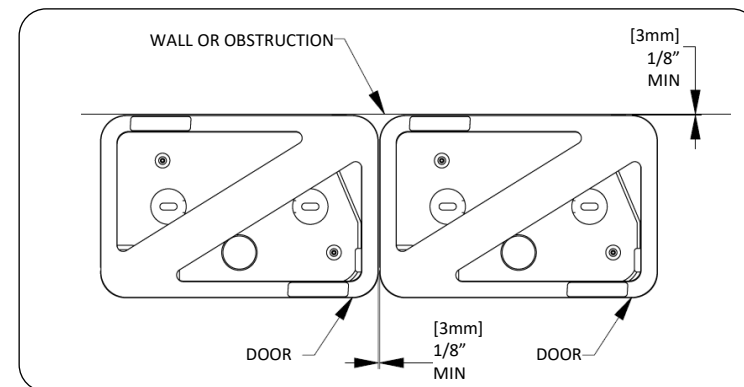

Fig. 3 – Recommended spacing
1. Set unit in position. Open door to access anchor hole locations in base. Check for door opening clearances before anchoring. See Fig. 3 for recommended spacing of multiple units.